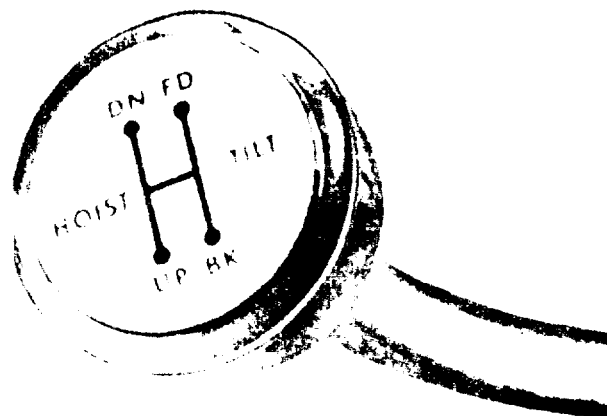

Figure 5. Hydraulic control lever.
c. Hydraulic Control Lever. The hydraulic control lever (4, fig. 3 and fig. 5) is located to the right of the operator's seat. With the engine running, move the control lever to the right; push it forward to tilt the forks down or pull it back to tilt the forks up. Move the control lever to the left and push it forward to lower